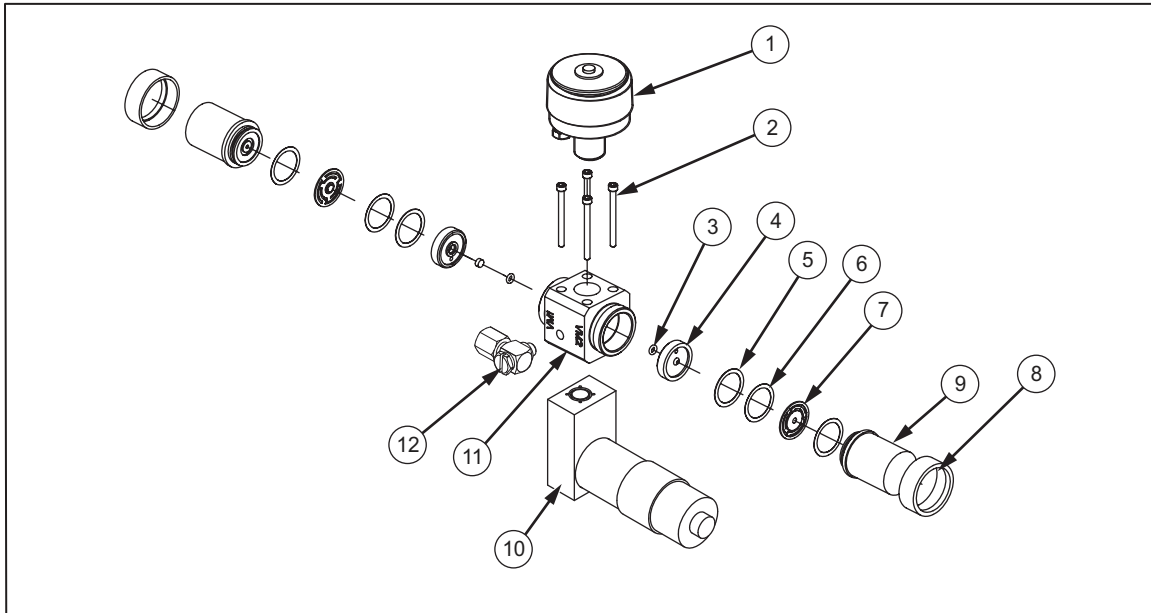

Figure 4-16. Pump Head and Piston Removal
3. Remove the NC isolation valve as follows (see Figure 4-16):
- c. With a soft grip pair of channel locks, turn the NC isolation valve (④) counterclockwise to remove.
- d. Remove the four screws (③) that attach base of the NC isolation valve to the CPS dock.
- e. Remove the valve body (①) from the CPS dock.
Use the following instructions and reference Figure 4-16 to replace the fine or coarse Clippard valves.
2. Remove the piston pump head along with the Clippard valves. See Figure 4-16. The Clippard valves can stay attached to the pump head.
- a. Use a pair of soft jaw channel lock pliers to loosen (counterclockwise) the atmospheric solenoid valve (①). Once loose, turn by hand to remove. Be careful not to lose the poppet and spring from inside the valve seat.
- b. Remove the four screws (②) and gently pull off the pump head.
3. Remove the four screws (②) that secure the crank cover (①) on the rear portion of the pump cylinder (⑤) to gain access to the piston crank (⑧).
4. Rotate the piston crank (⑧) so that the piston is at the top of piston shaft. With a marker, mark the alignment position on the piston crank (⑦) and also which hole on the crank it was installed in. This will aid with reinstallation.
5. Mark the outer face of the connecting rod (⑥) with an orientation marking. Make sure this mark is showing when reinstalled.
6. Remove the crank screw (⑦). Use a pair of rubber gripped pliers to hold the piston crank (⑥) in place while turning the screw.